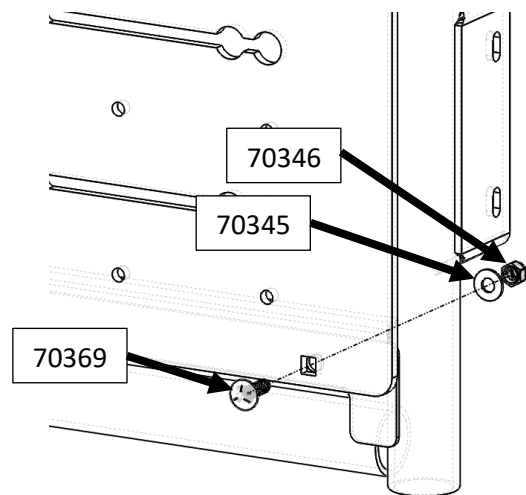

Figure 1: Fastening BackPACK to Base Unit
2. Install the 5/16" hardware through the four (4) pre-cut holes of the BackPACK through the Base Unit mounting surface (Figure 1). Leave hardware loose until all four bolts are inserted.